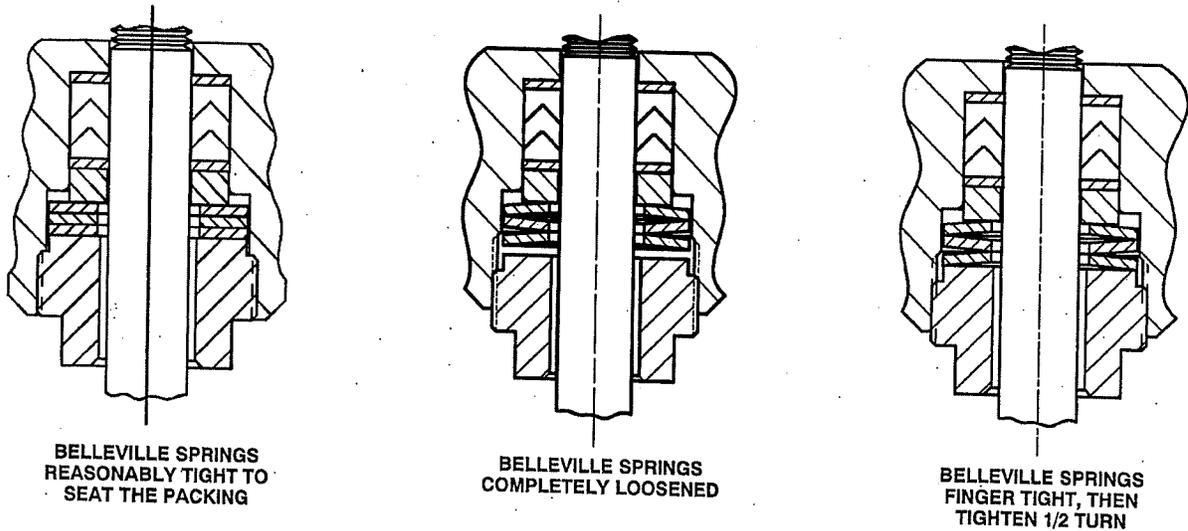

Figure 3. Belleville Spring Procedure
17. Apply a light film of Dow Corning 111 lubricant or equivalent (key 33) to the threads of the packing retainer (key 7).
18. Install the packing retainer into the bonnet and tighten until the Belleville springs (key 9) are reasonably tight to seat the packing. See figure 3.
19. Completely loosen the packing retainer to relieve all Belleville spring compression. See figure 3.
20. Retighten the packing retainer with your fingers until the packing retainer contacts the Belleville springs. See figure 3.
21. Tighten the packing retainer 1/2 turn clockwise. See figure 3.
22. If the bottom casing (key 20) has been removed, place O-ring (key 16) into the groove provided in the top of the bonnet. Place the bottom casing on the bonnet, oriented in the same position as marked in step 7 on page 7. Screw the hex nut (key 18) onto the bonnet, and tighten to 203 N•m (150 lbf•ft).
23. **For spring-to-close actuator action only,** assemble the actuator by first placing the washer (key 24) over the valve stem. Then place the diaphragm (key 19) over the valve stem, and position it so the holes in the diaphragm match the holes in the casing. Place the diaphragm plate (key 25) over the valve stem. Install the washer (key 24), diaphragm hex nut (key 26). Tighten the diaphragm hex nut to 11 N•m (95 lbf•in), while holding the stem by the flats. Install the springs (key 27) and attach the upper casing (key 21) by first installing the two long cap screws (key 30) opposite one another.
24. Begin tightening the two long screws evenly until the remaining six shorter cap screws (key 22)